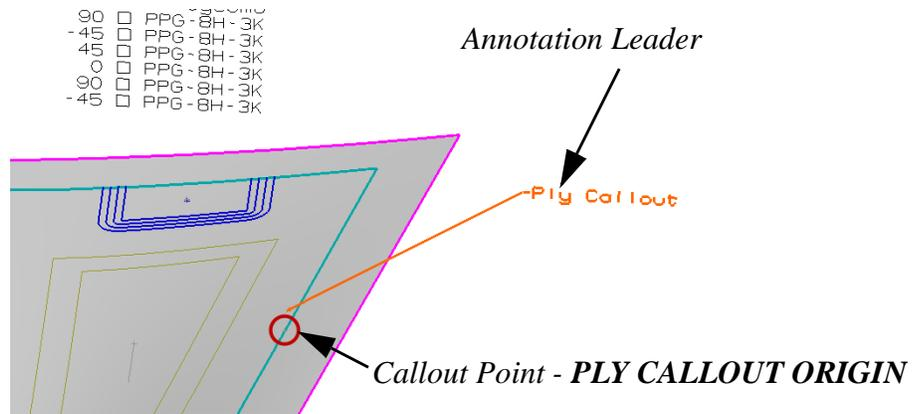

Figure 8–13
- Callout Point: **Ply Callout Origin** (See Figure 8–13.)